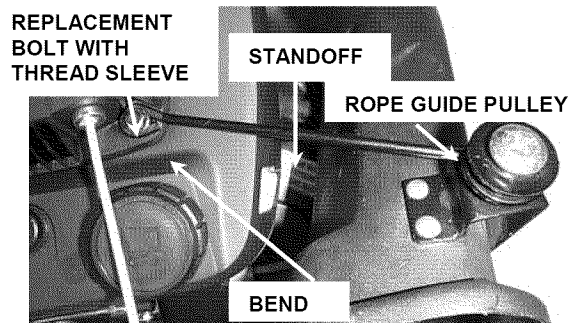

FIGURE 13a
STEP 1a (Kawasaki only): Attach Bag Adapter Standoff between rope guide pulley assembly and engine recoil. See Figure 13a.